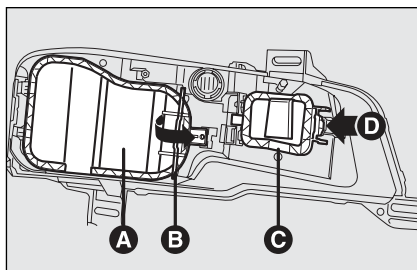

fig. 27
- ☐ remove the protective cover **A** and **C**-**fig. 27** releasing catch **B** and **D** respectively;